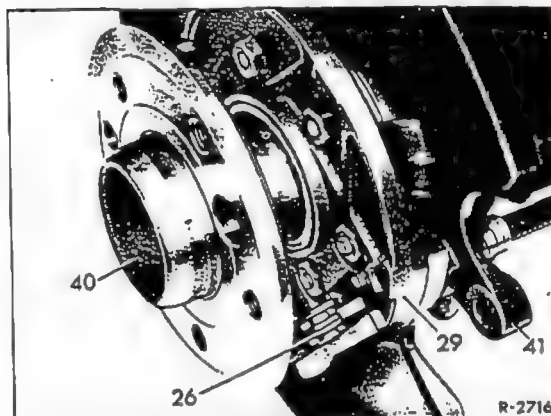

Fig. 42-28/7
12. Rub all bearing and sliding surfaces of the expansion lock with a permanent lubricant (zinc sulfide paste, Molykote paste, Liqui-Moly Paste). Attach the brake cable (39) to the expansion lock (26) by means of the pin (33). Press the expansion lock into the back plate (29) (Figs. 42-28/7 to 9).